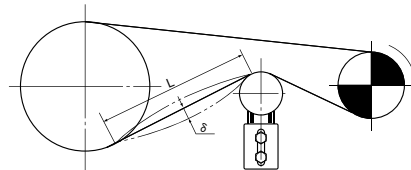

Fig. 7 Tensioner's anchored position
- 4) Push in on the chain with the tensioner and, if the amount of slack is appropriate ( $\delta$ ), tighten the nut and anchor the tensioner. Aim for a value less than  $\delta = 0.02 \times L$ . (Fig. 7)